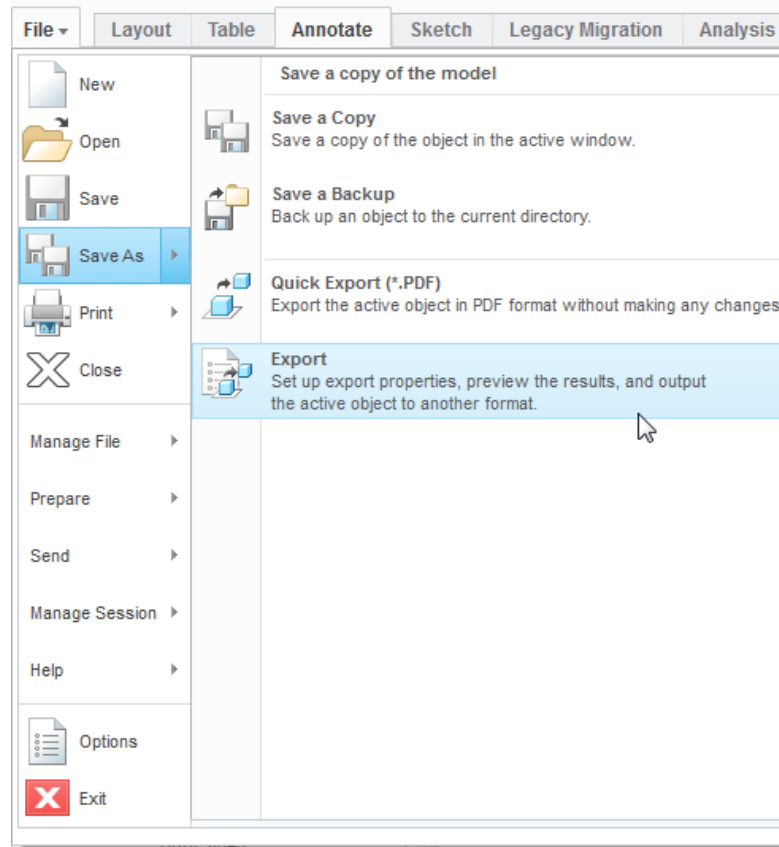

Figure 33: Export.
- 1) Select **File, Save As** and **Export** (Figure 33).